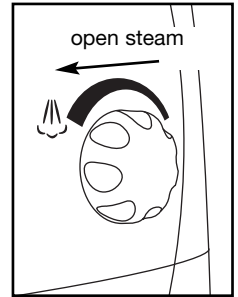

Fig. 9
2. Steam knob (fig. 9)
4. Open the steam knob (fig. 9). Wait until all steam is released.
1. Make sure the machine is plugged in and turned off. The glass carafe is removed from the drip tray. **Important:** The steam knob (fig. 9) must be in the closed position. The coffee/steam selector points to the cup symbol in front of the machine (stronger coffee). Moving the coffee/steam selector to the right, accelerates brewing and decreases coffee strength.
5. With the right hand slowly turn the steam knob towards the steam symbol (fig. 9 & 10). Steam will push out into the pitcher. The more you open the steam knob the more steam will be released. If the steam is too powerful, turn the steam knob back to reduce the steam output. This procedure might take a little practice (see below). Once you have injected enough steam into your milk, turn the steam knob back to stop the steam output completely. Set the pitcher with the frothed milk aside. **Caution:** The steam pipe is hot